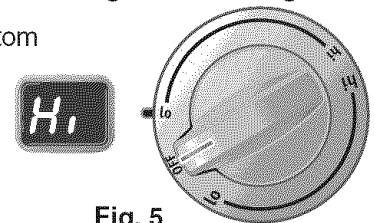
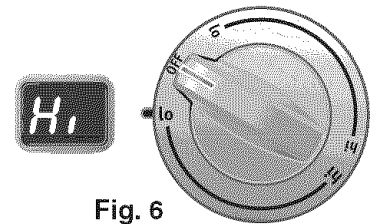

Fig. 5
Fig. 6
2. Push in and turn the control knob **counterclockwise** (See Figs. 5 & 7) to heat the portion of the Bridge element for normal shaped cookware or **clockwise** (See Figs. 6 & 8) for larger or rectangular shaped cookware.